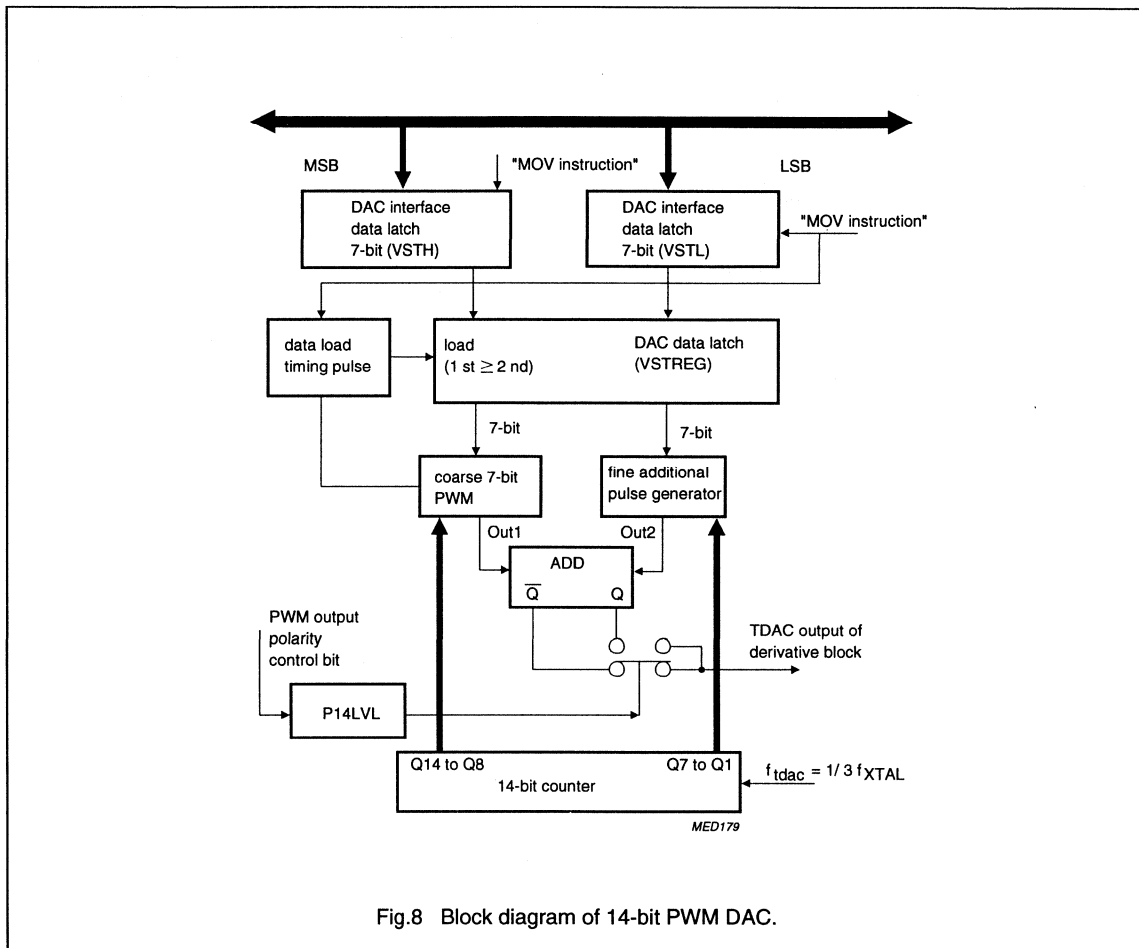

Fig.8 Block diagram of 14-bit PWM DAC.
The PCA84C846 has one PWM DAC output with a resolution of 16384 levels for voltage synthesized tuning, the VST DAC (see Fig.8).
Coarse adjustment (Fig.10) is carried out in periods of  $T_{sub}$ . During 1  $T_{sub}$ , the coarse adjustment output (Out1 of Fig.8) is low while  $t_s \leq (VSTH) \times t_0$ . The coarse adjustment output is high while  $(VSTH) \times t_0 < t_s < 128 \times t_0$ . Where  $t_s$  is the time within  $T_{sub}$ .
- (1) Coarse output (Out1, Fig.8)
- (2) Fine adjustment output (Out2, Fig.8)
- (3) TDAC output (Out1, Out2)